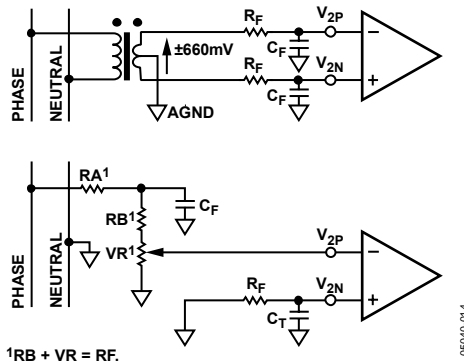

Figure 16. Typical Connection for Channel 2
Figure 16 shows two typical connections for Channel V2. The first option uses a potential transformer (PT) to provide complete isolation from the main voltage. In the second option, the ADE7761A is biased around the neutral wire, and a resistor divider is used to provide a voltage signal that is proportional to the line voltage. Adjusting the ratio of R_A and $R_B + VR$ is a convenient way to carry out a gain calibration on the meter.